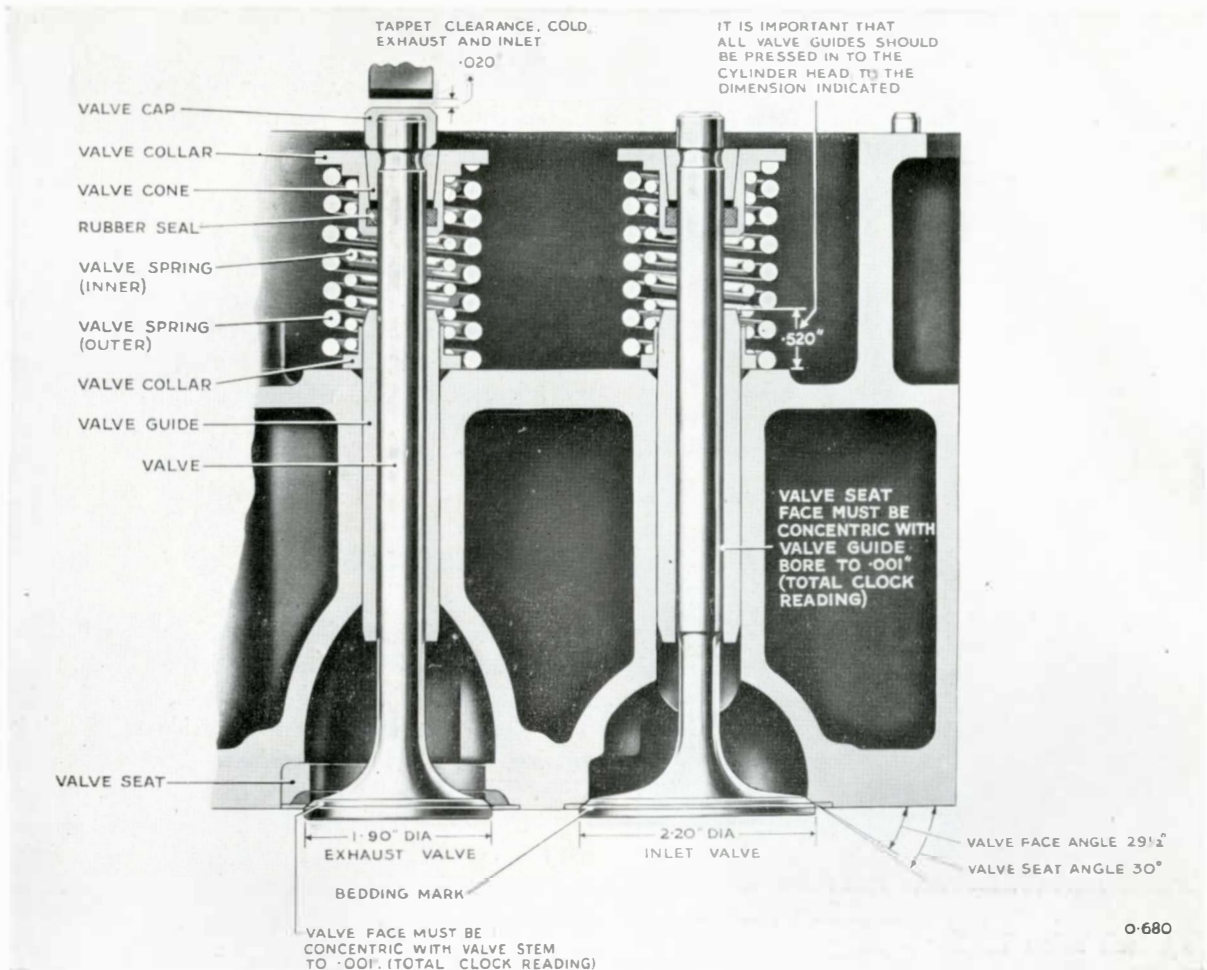

FIG. 25. VALVES AND SPRINGS IN POSITION
Both valves are stellite-faced and have hard-chrome-plated stems. The valves can be distinguished by the difference in size across their heads, the exhaust being 1.90 in. (48.26 mm.) dia., and the inlet 2.20 in. (55.88 mm.) dia., Fig. 25.
2. The valve guides are an interference fit in the heads and must be pressed in and out when replacements are necessary. See Fig. 25 for position of valve guide in head.
4. When the valves and seats have been re-cut, or when the valves and seats are in good condition, they should be lightly lapped together to give a perfect seating. The seating mark should be a thin line towards the top of the seat, Fig. 25.